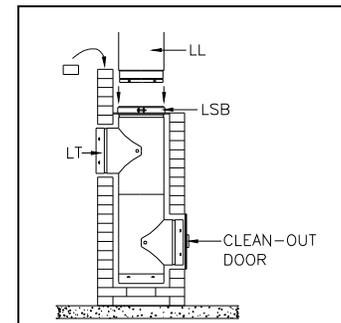

Fig. 3
4. Place the tee (LT) and length assembly on the support base (LSB), then add lengths (LL) along the chimney construction until the liner protrudes about 10 in. (254 mm) above the masonry chimney (fig.3).